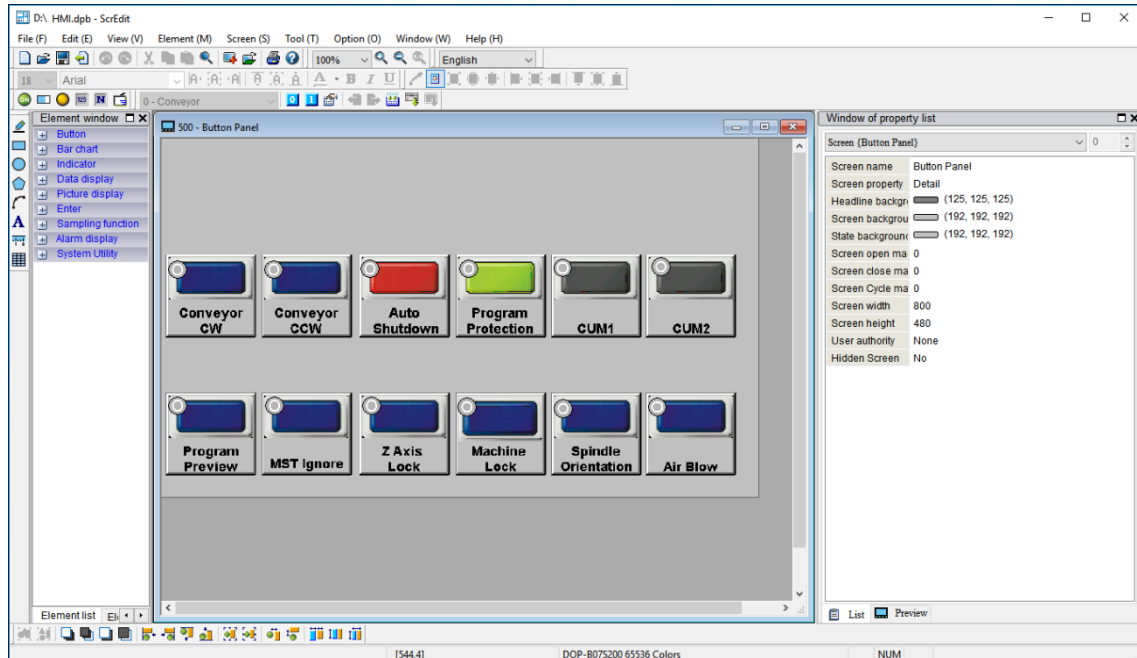

Figure 13.1.2
- Enter ScreenEditor, and you can see the operation interface as shown in Figure 13.1.2.